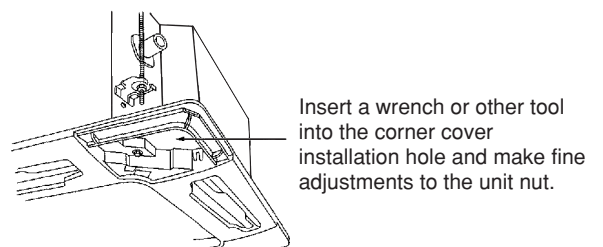

Fig. 9-18
- If there is a gap between the panel and the ceiling, leave the ceiling panel attached and make fine adjustments to the installation height of the unit to eliminate the gap with the ceiling. (Fig. 9-18)